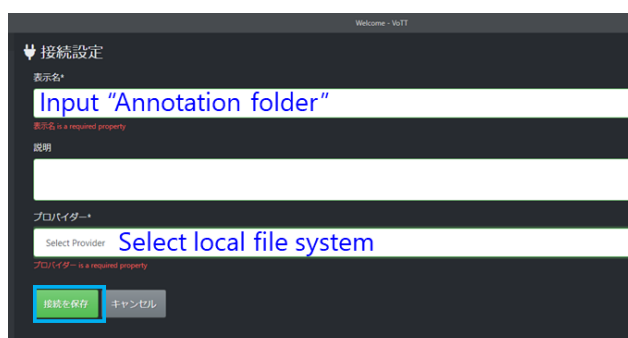

Fig.4.5 Target connection settings
- (h) When the connection settings shown in Figure 4.5 are displayed, enter a display name that identifies the folder in which annotation results will be stored (such as Annotation folder).
(l) In the column under ⑤ "Target connection" in Fig. 4.6, set it to the Annotation folder set in Fig. 4.5.